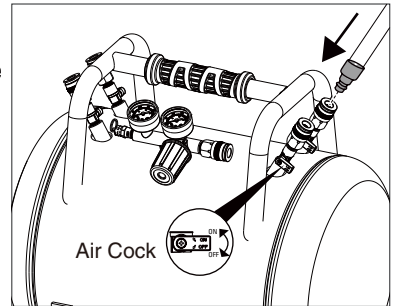

Fig 2
- (1) Close the air cock (Fig 2).
- (2) Connect the tank by connecting the air hose to one of the four quick couplers on the tank.
- (3) Connect to the application by connecting the air hose to the tank's quick couplers.
- (4) Slowly open the air cocks.